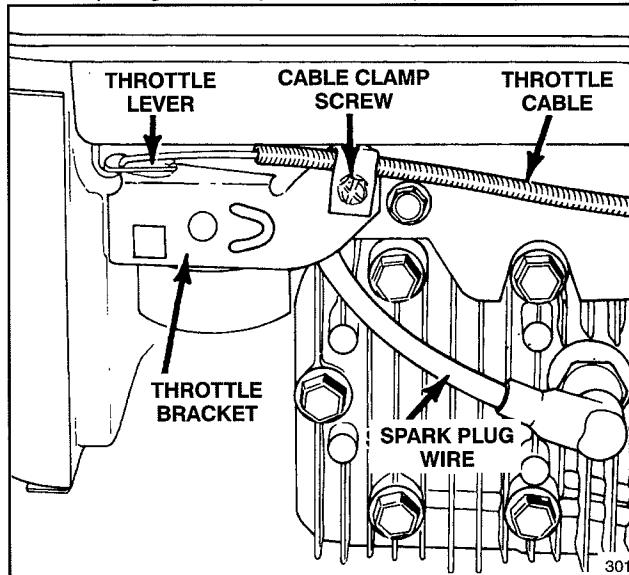

Figure 15
1. Stop engine and pull wire off spark plug (Fig. 15).
3. Loosen cable clamp screw until throttle cable slides (Fig. 15). Align holes in throttle lever and throttle bracket using a 1/8" diameter drill (Fig. 16). Tighten cable clamp screw to lock adjustment in place.
**1.** Stop engine and pull wire off spark plug (Fig. 15).
1. Stop the engine. Pull the wire off the spark plug (Fig. 15).